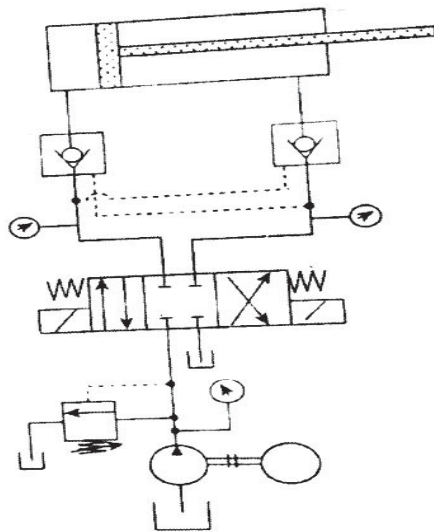

Fig. 8 (b)
b) Analyze the circuit shown in Fig 8 (b) **[7]**